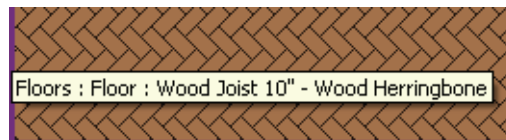

Figure 1–83
12. Modify the floor and change it to the other Herringbone floor type. The floor color changes because the material has changed, as shown in Figure 1–83.